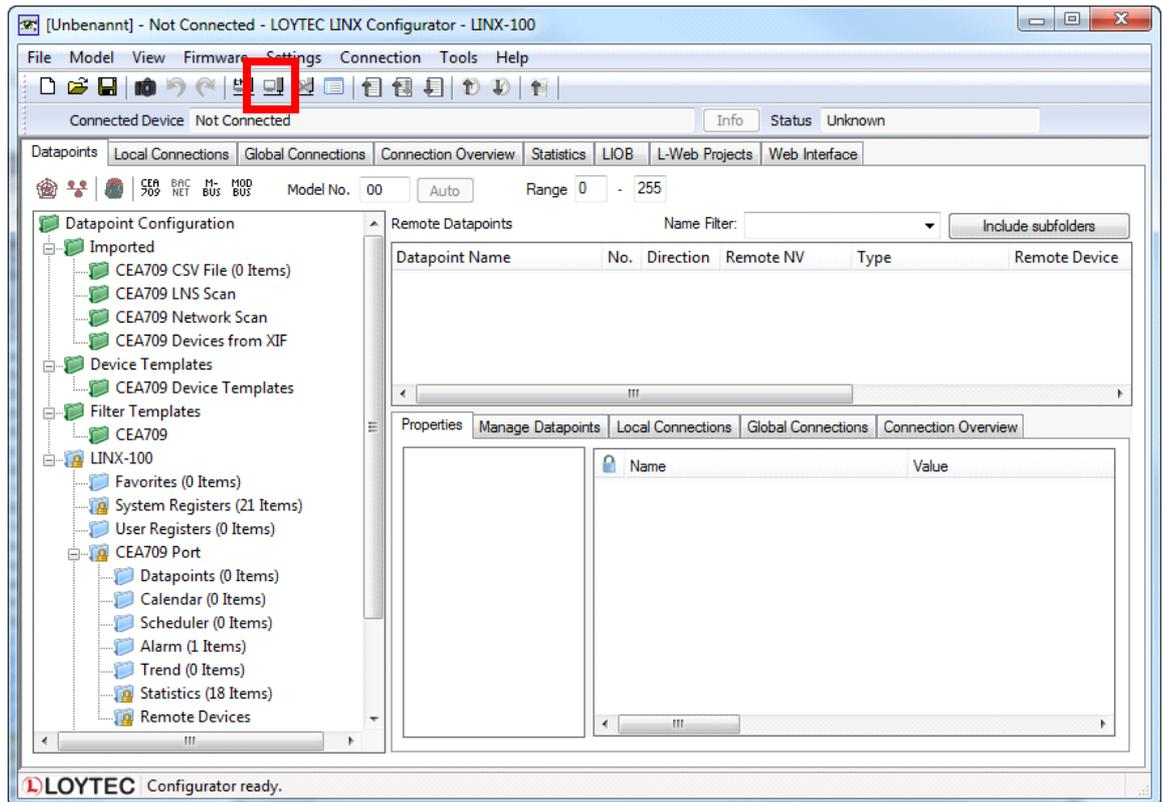

Figure 15: L-INX Configurator main screen.
1. Start the L-INX Configurator software by selecting Windows **Start → Programs → LOYTEC LINX Configurator → LOYTEC LINX Configurator**. The application starts up and displays the data point manager screen as shown in Figure 15.
2. When the device is online, connect to the device by clicking on the **Connect to device** speed button as indicated by the red rectangle in Figure 15.